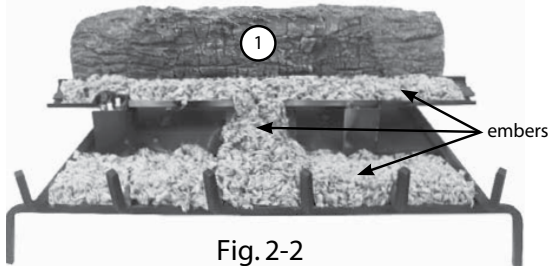

Fig. 2-2
1. Prior to log placement, spread the provided embers evenly over the designated areas on the burner, as shown in Fig. 2-2.
2. Set the bottom rear log #1 at the rear of the grate (Fig. 2-2). Center the log, with its back up against the burner tabs.